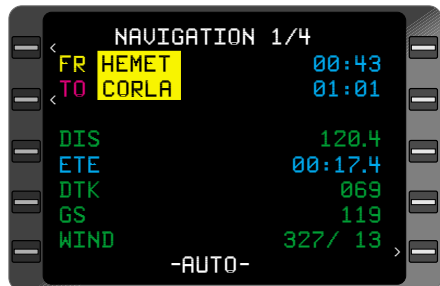

Figure 3-173
- (1) Latitude - INSERT (**N** or **S** first, then degrees, minutes, and hundredths).
- (2) **ENTER** Key - DEPRESS.
- (3) Longitude - INSERT (**E** or **W** first, then degrees, minutes, and hundredths).
6. **TO** Waypoint Identifier - INSERT or VERIFY. (Figure 3-173)